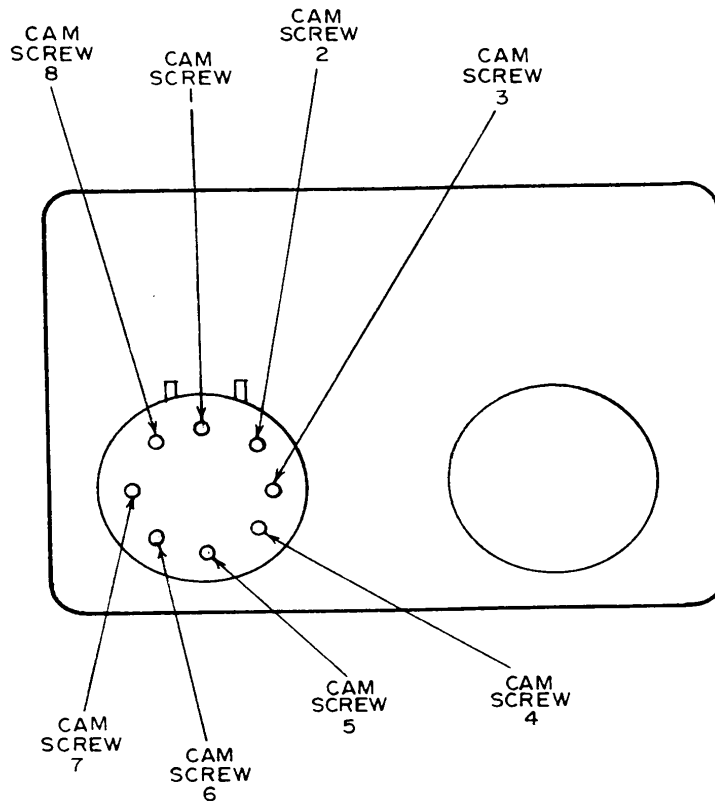

Figure 1. Impedance bridge – rear view.
- (1) Set resistance bridge for 4300 ohms.
- (2) Adjust CRL (CGRL) dial to 4.3.
- (3) Adjust cam screw 6 (fig. 1) for a null indication on resistance bridge.
CRL (CGRL) dial settings	Cam screw adjustments (fig. 1) (R)